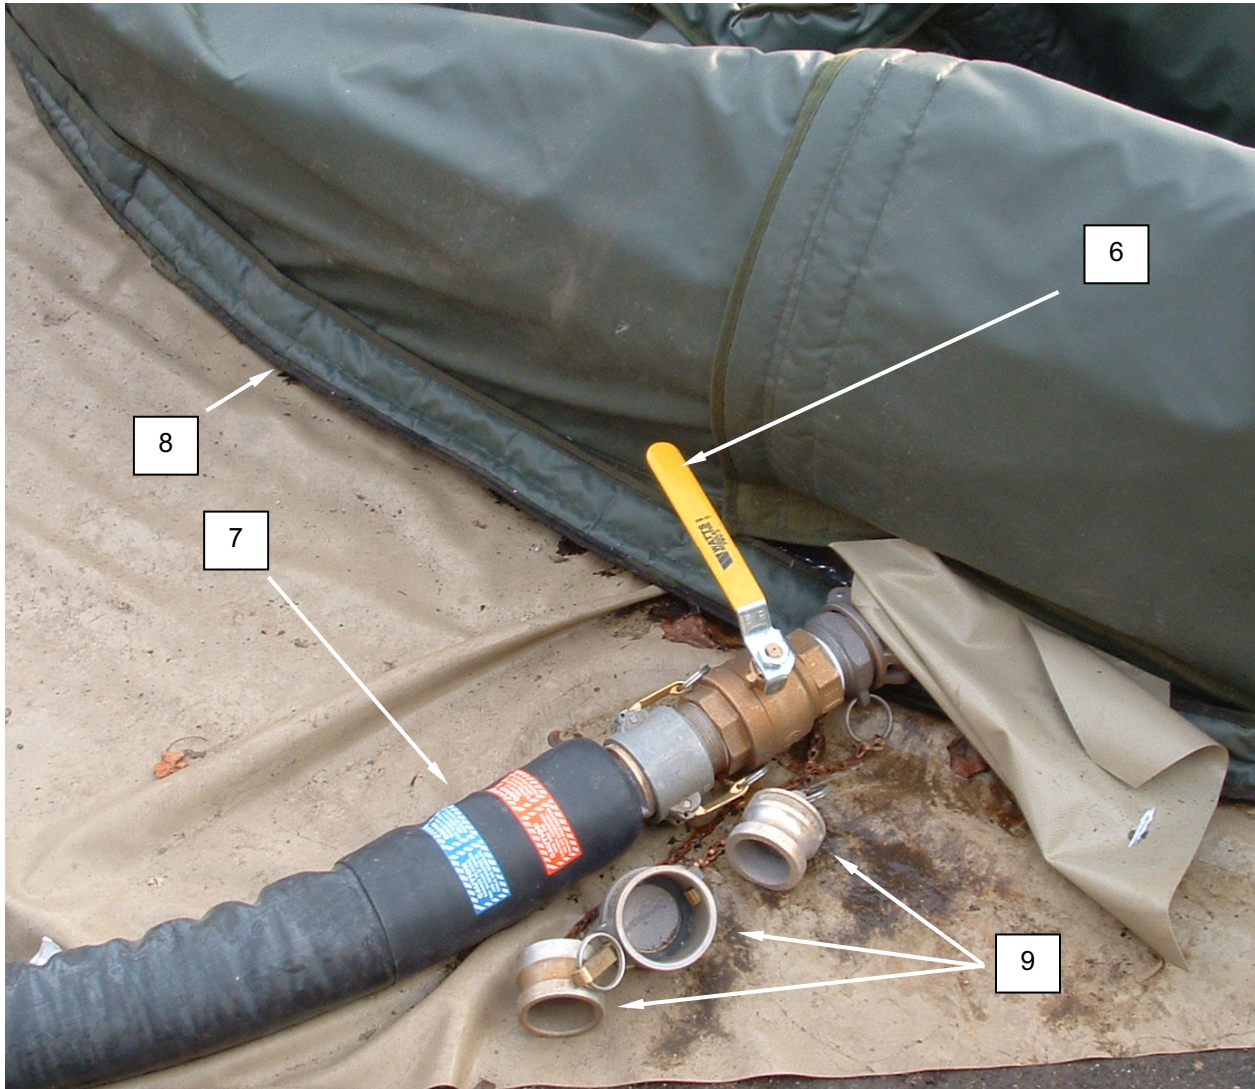

Figure 3. Prepare the 3000 Supply Water Tank for Movement.
4. Close water shutoff valve (**Figure 3, Item 6**) supplying water at the water shutoff valve.
6. Disconnect supply water hose (**Figure 3, Item 7**) from water inlet panel and install dust cap on water inlet connection.
7. Route supply water hose (**Figure 3, Item 7**) downgrade from CBL and water tank (**Figure 3, Item 8**) and drain all remaining water from bag.
8. Disconnect supply water hose (**Figure 3, Item 7**) from water shutoff valve (**Figure 3, Item 6**).
9. Close valve and disconnect water shutoff valve (**Figure 3, Item 6**) from 3000-gallon supply water tank (**Figure 3, Item 8**).
11. Install dust caps and plugs (**Figure 3, Item 9**) and coil the hose (**Figure 3, Item 7**) neatly.
12. If insulated tank cover is fitted as shown in Figure 3, remove at this time.